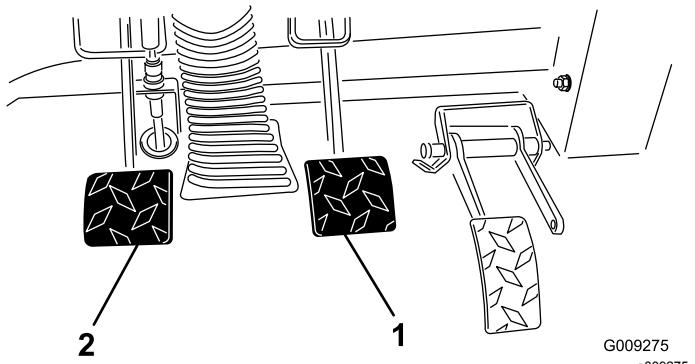

Figure 54
2. Lift up on the brake pedal (Figure 54) until it contacts the frame.